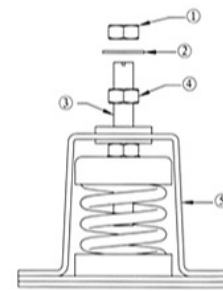

figure1
Type JKL spring anti-vibration mount includes the following parts:(As figure1)
- 1、 Twist the locking nut ① and gasket② off AVM. As figure 1.